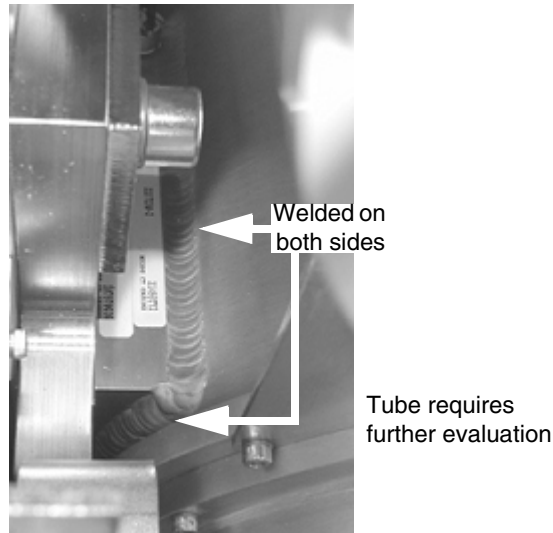

Figure 3 - Weld seen on both sides
- a.) If the welds are seen on both sides, as shown in Figure 3, then your tube casing is suspect. You must continue with Section 1.3.2 - Visual Inspection - Off Gantry.